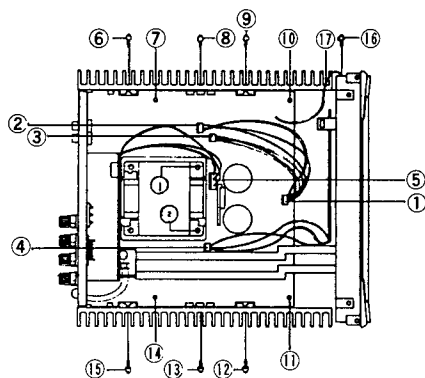

Fig. 5
2. Remove connectors ① to ⑤ in Fig. 5, and then remove screws ⑥ to ⑬
3. Remove screw ⑭ in Fig. 5, and then untie the ground wire ⑮
4. Remove the pcb-18 Fig. 5